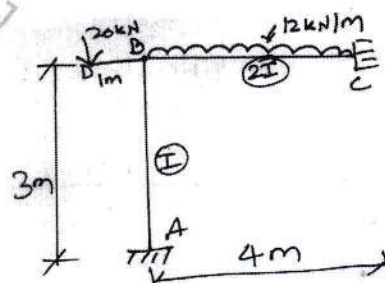

Fig.Q8
- 8 Analyze the frame shown in Fig.Q8 by slope deflection method and draw bending moment diagram. $E = \text{constant}$.